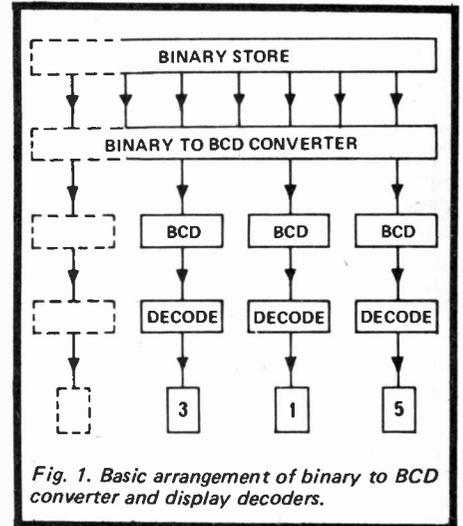

Fig. 1. Basic arrangement of binary to BCD converter and display decoders.
Figure 1 shows the system block diagram in its simplest form. The sync signals for the TV are generated as field sync (FS) and line sync (LS) and a mixed sync which is passed to the video mixer stage. FS occurs off the screen to the top and thus we have to define a time after FS when we want the display to start. To do this a monostable is triggered by FS
The 40 pin pin-out of the SC/MP CPU chip is shown as fig 1. The functions of these pins working from pin 1 are as follows.